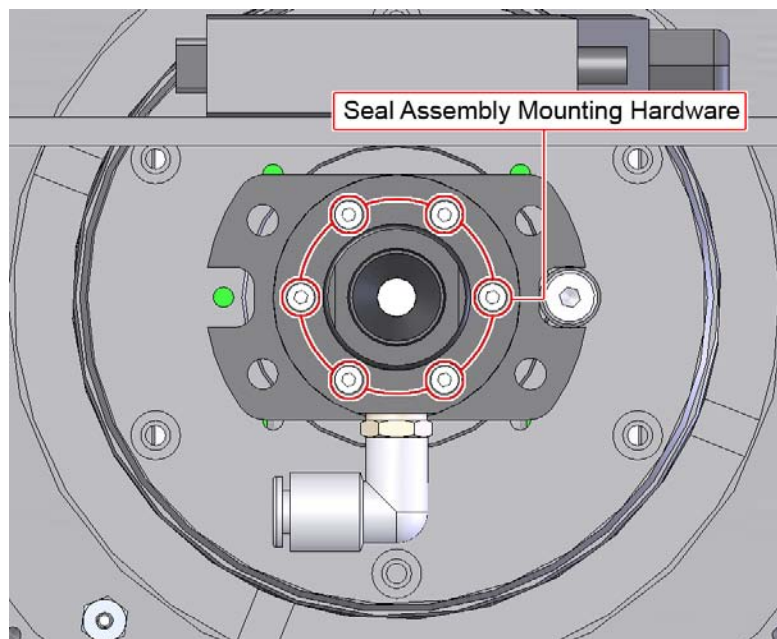

Figure 4-6: Seal Assembly Removal
Step 3: Remove the six seal assembly screws from the rear end of the rotary union (see Figure 4-6).